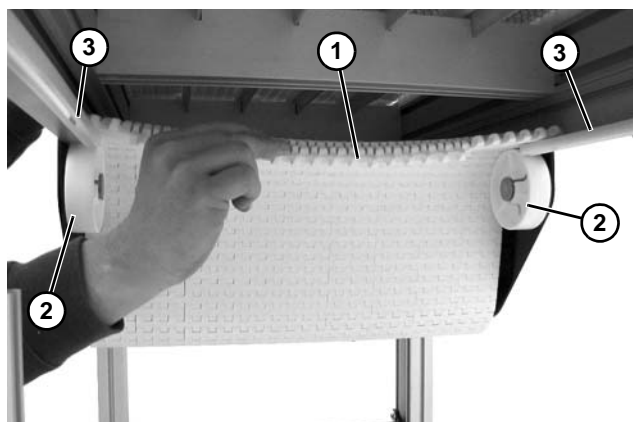

Figure 22
- Weighted Take-Up: Continue wrapping belt (Figure 22, item 1) over top of pucks (Figure 22, item 2) and on top of J-Leg wear strips (Figure 22, item 3).